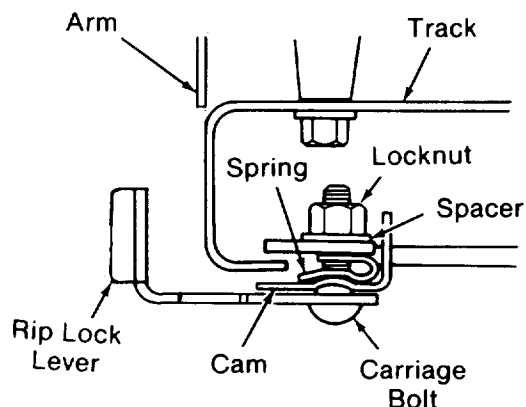

Fig. 133 - Location of Hex Lock Nut
1. Hold the *rip lock* in the unlocked position and with a 7/16 inch wrench tighten the 1/4-20 hex lock nut 1/4 turn. (Figure 133)